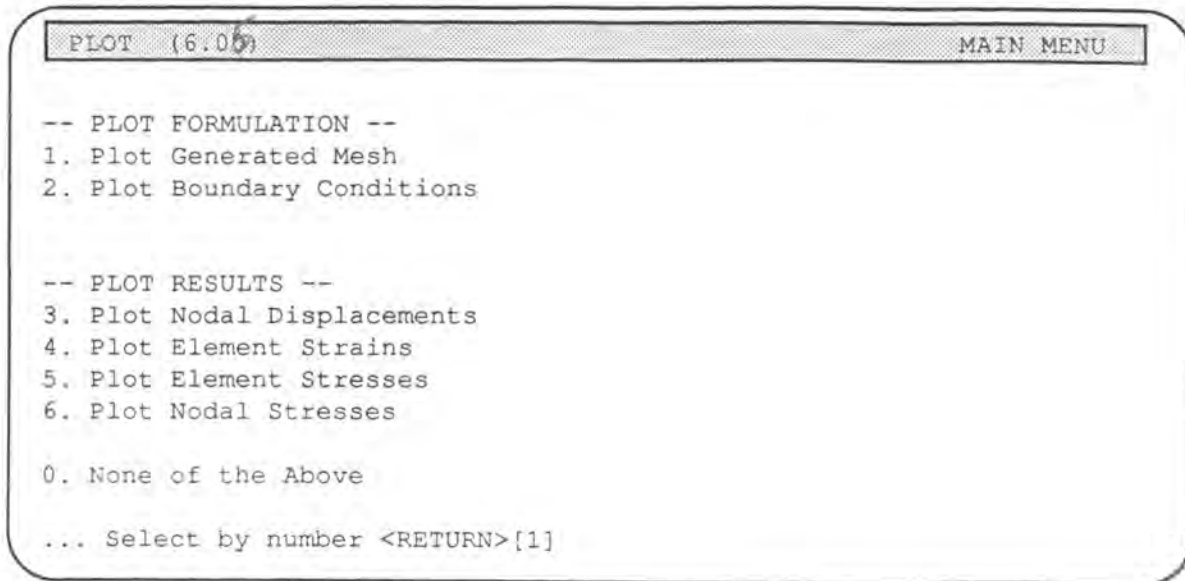
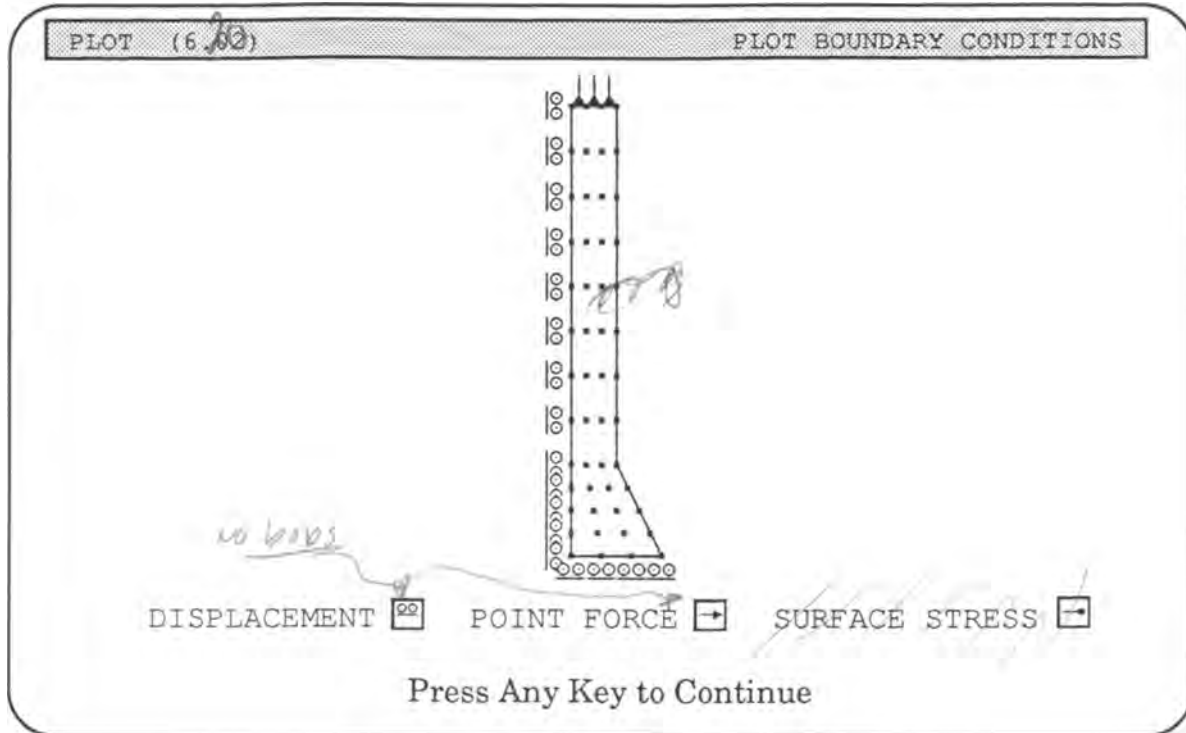

Fig 2.39 Plot main menu
Fig 2.43 Boundary conditions
- Press <Enter> to accept the default and return to the plot menu (Fig 2.39).
- Press <Enter> twice (Fig 2.43) to skip the advanced features and to return to the Plot main menu (Fig 2.39).
- Press <Enter> twice (Fig 2.42) to skip the advanced features and to return to the Plot main menu (Fig 2.39).
- Type 0 and press <Enter> to return to the plot menu (Fig 2.39).